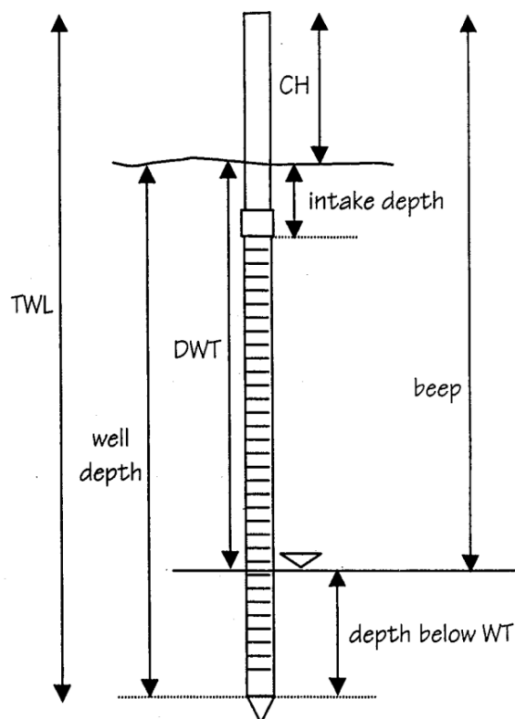

Figure 9. Well specs.
- Beep the well. Measure the casing height, the distance from the base of the well at the ground surface to the rim at the top of the casing between the 2 notches. Calculate and record the well specs in your fieldbook (see next page). It is helpful to sketch the well and fill in some of these data, similar to Fig. 9, next page.